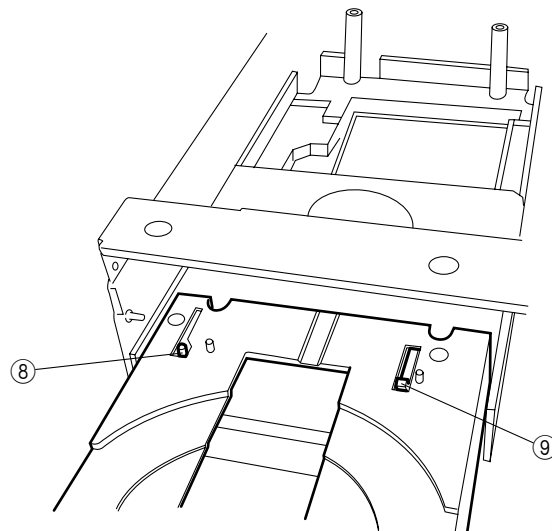

Fig. 4
- e. While pushing the lever (8) toward the left, lift up the lever (9). Then with the lever held up, remove the Tray by pulling it forward. (Fig. 4)